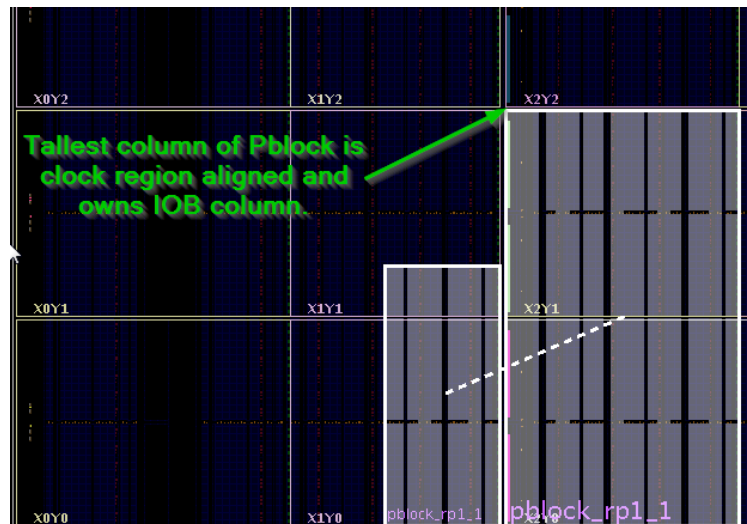

Figure 7-8: Tallest Column of Pblock Clock Region Aligned
- Xilinx recommends using rectangular Pblock shapes. Non-rectangular shapes are also supported for RPs with clocking logic, as long as the tallest column of the Pblock is aligned vertically and horizontally with the clock region. The tallest column of the RP Pblock must also range the IOB, and this range must cover the full height of all the rectangles that define the RP Pblock, as shown in Figure 7-8. In other words, this vertical column of IOB ranges must be able to access all rows of the Pblock. Pblock shapes like a sideways “L” are not supported unless the vertical section of the shaped includes the IOB range.